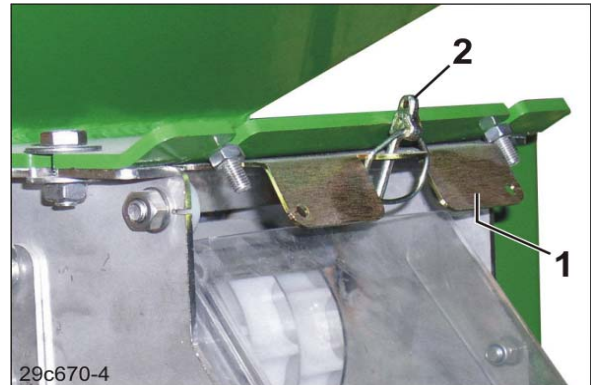

Fig. 175
- 5.1 Remove the linch pin (Fig. 175/2). The linch pin secures the shutter (Fig. 175/1) during operation.